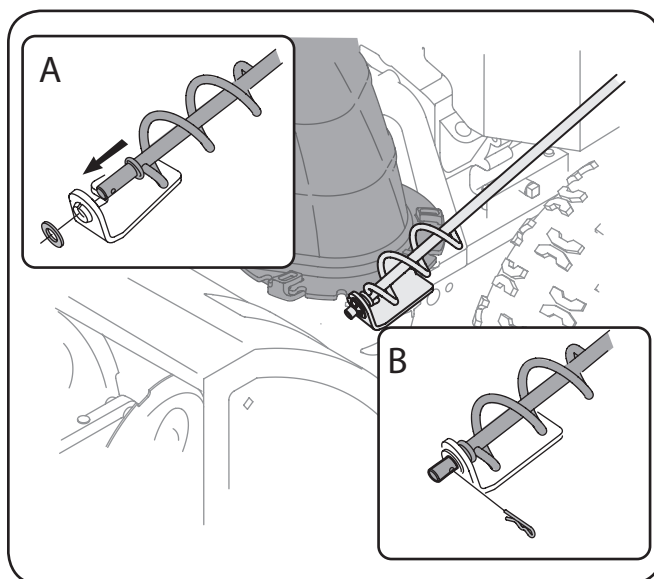

Figure 3-21
1. Remove the plastic cap (if present), flat washer and hairpin clip from the end of the chute directional control. See Figure 3-21.